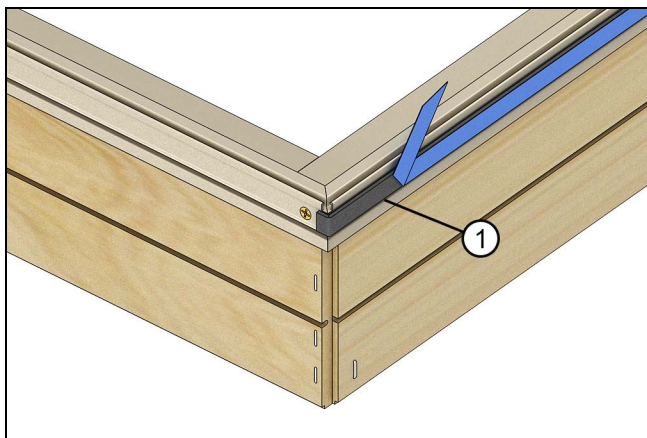

Figure 17
4. Apply mull sealant tape to one unit ensuring that it is located flush with the exterior edge of the cladding as shown in Figure 17. The tape should extend past the mull and wrap around the corner by at least 1/8". Remove the paper backing.